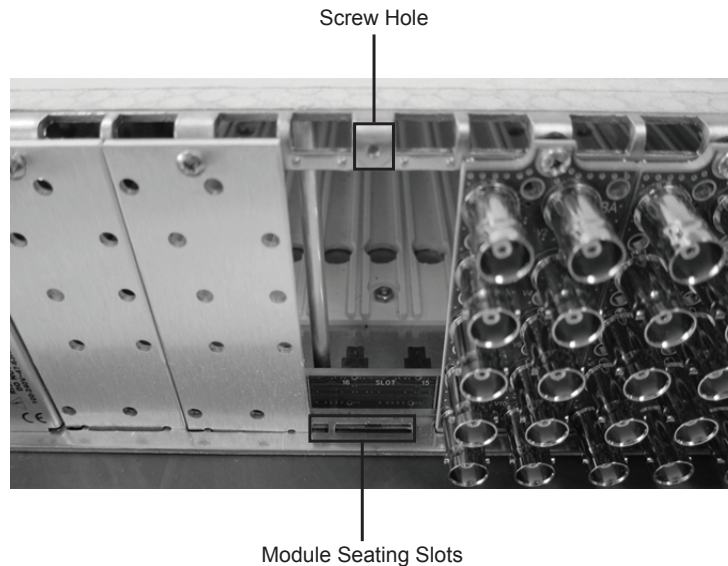

Figure 2.1 Rear Module Installation (LDP-8242 not shown)
3. Install the bottom of the rear module in the **Module Seating Slot** at the base of the frame's back plane. (**Figure 2.1**)